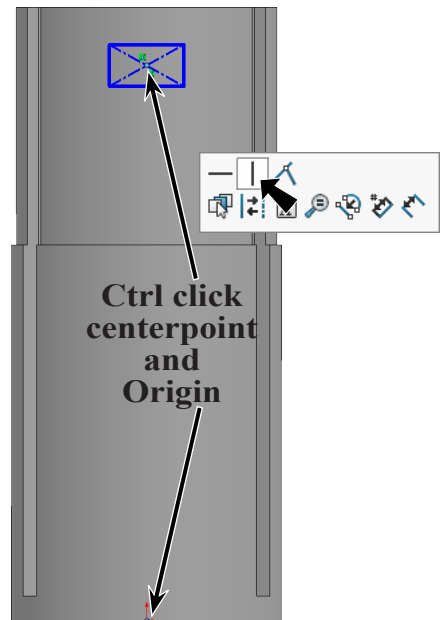

Fig. 101
Step 6. **Ctrl click centerpoint of rectangle and Origin** to select both. Release Ctrl key and click **Make Vertical** on the context toolbar, **Fig. 101**.
Step 7. Click **Smart Dimension** (S) on the Sketch toolbar.